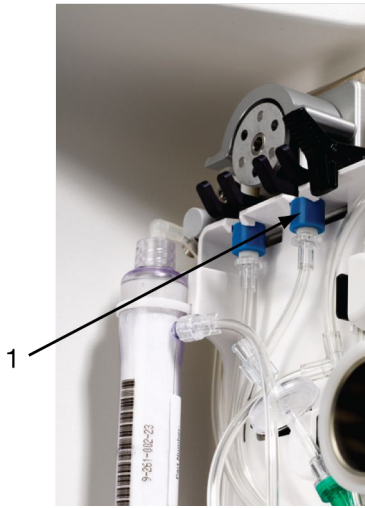

Figure 7-6: Loading the tubing into the pump
16. Pull the tubing over the center of the pump rotor, through the prong, and in behind the notch, as shown in Figure 7-6.